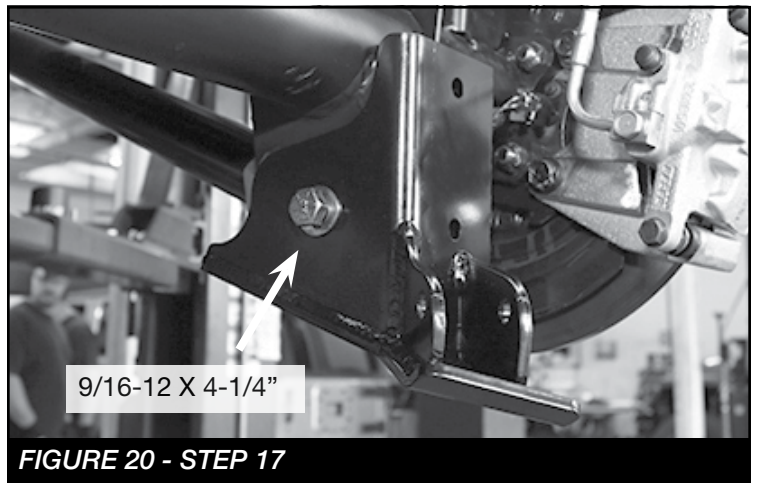

FIGURE 20 - STEP 17
- Install the lower rear shock mount and lower link using the 9/16-12 X 4-1/4" bolt and hardware. **SEE FIGURE 20**